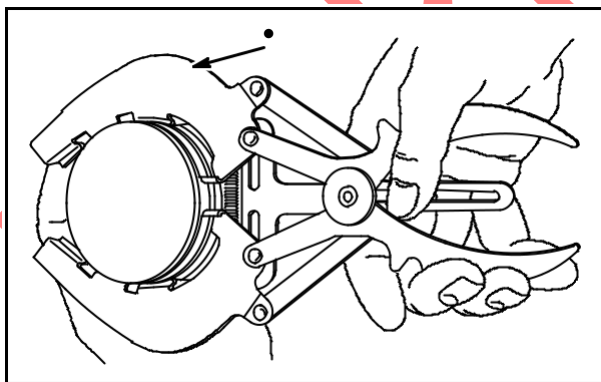

Fig. 1
Remove piston rings using Ring Expander #19340 (1), Fig. 1.